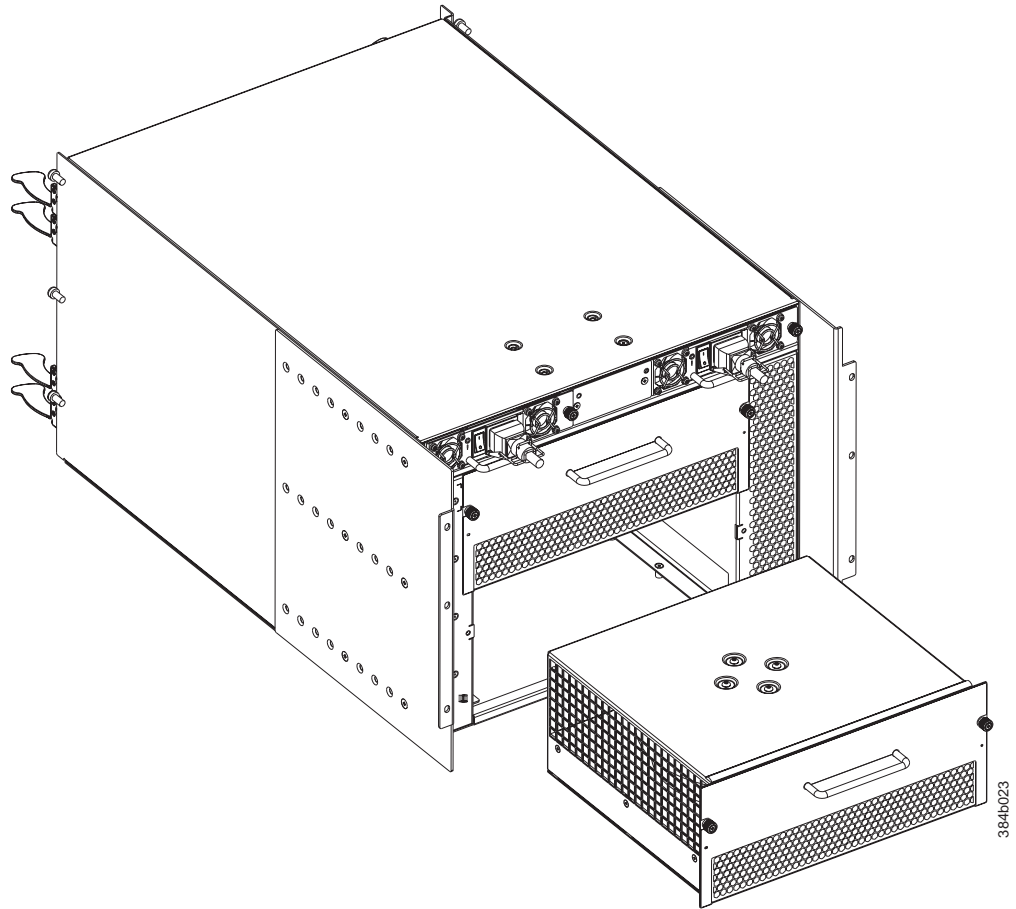

Figure 38. Blower assembly removal
3. Grasp the handle and pull, sliding the blower assembly from the chassis and supporting the blower assembly from beneath as you remove it (see Figure 38 on page 77).